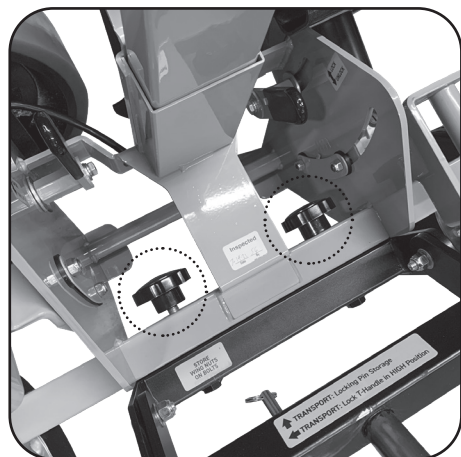

Figure 2 Remove both knobs.
10. Using wheel tilt angle handle (C) (See figure 2) push forward for end-over-end or pull back for passes and punts.
11. Dial wheel speed (F) to approximate speed.